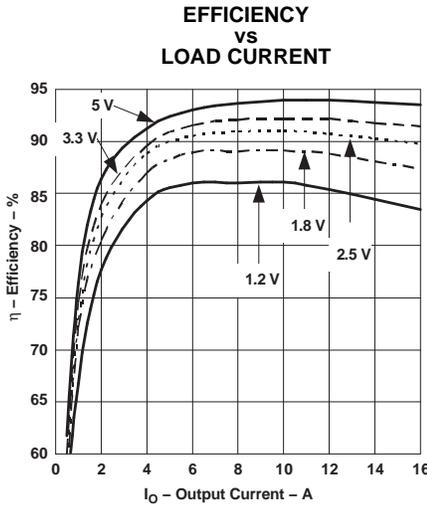
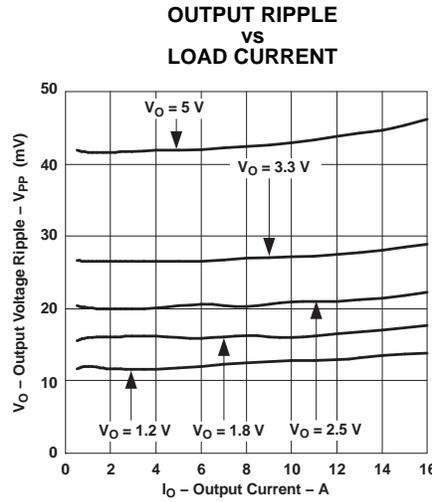
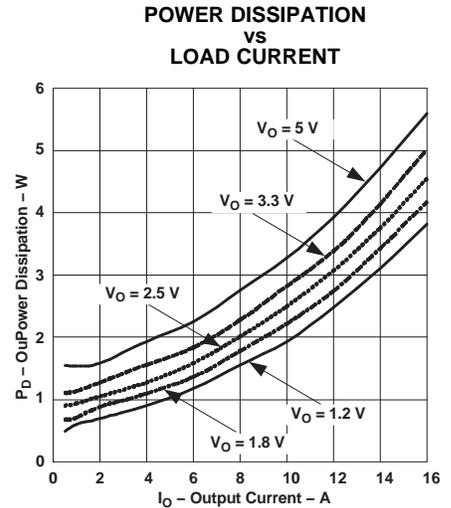

Figure 1.
Figure 2.
Figure 3.
- (1) The electrical characteristic data has been developed from actual products tested at 25C. This data is considered typical for the converter. Applies to Figure 1, Figure 2, and Figure 3.